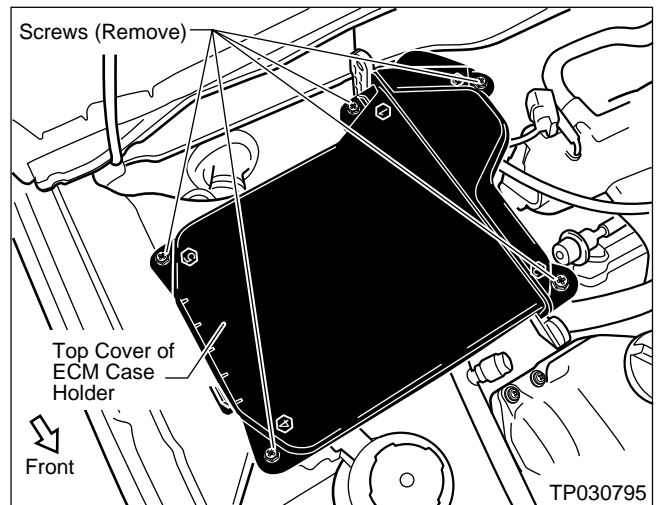

Figure 8
- Take out five Screws and remove the Top Cover of the ECM Case Holder (see Figure 8).